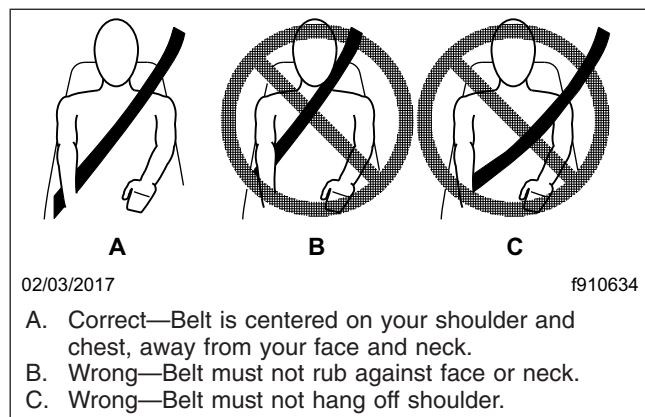

Fig. 7.8, Proper Shoulder Strap Fit
3. Position the shoulder strap diagonally across your chest with the adjustable D-loop bracket (if equipped). The shoulder strap must be centered on your shoulder and chest, away from your face and neck. See Fig. 7.8. If desired, engage the Komfort Latch as follows.
on your shoulder and chest, away from your face and neck. See **Fig. 7.8**.